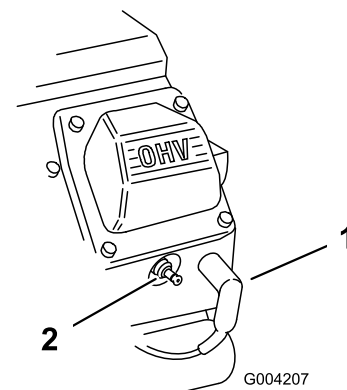

Figure 166
- Assemble the spark-plug wires onto the spark plugs (Figure 166).